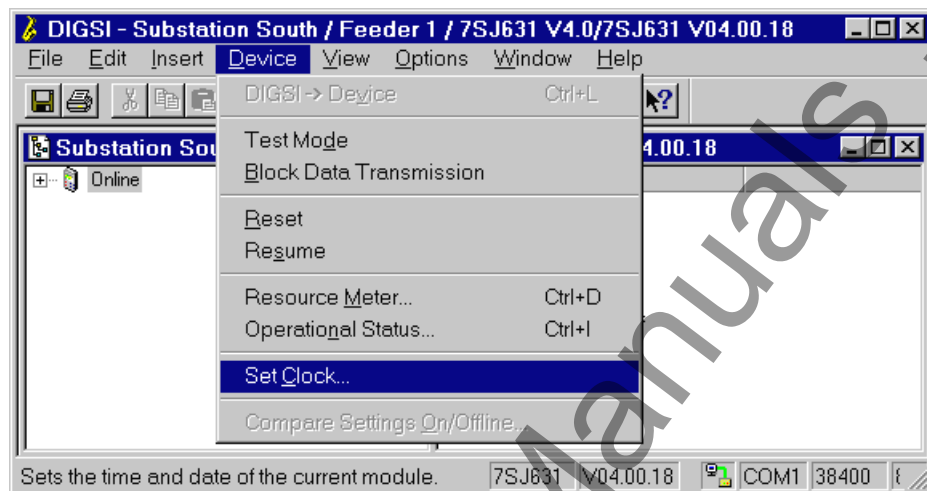

Figure 3-11 DIGSI® 4 — Selection of the option **Set Clock** - example
- ❑ Click on **Device** in the menu bar. See Figure 3-11.